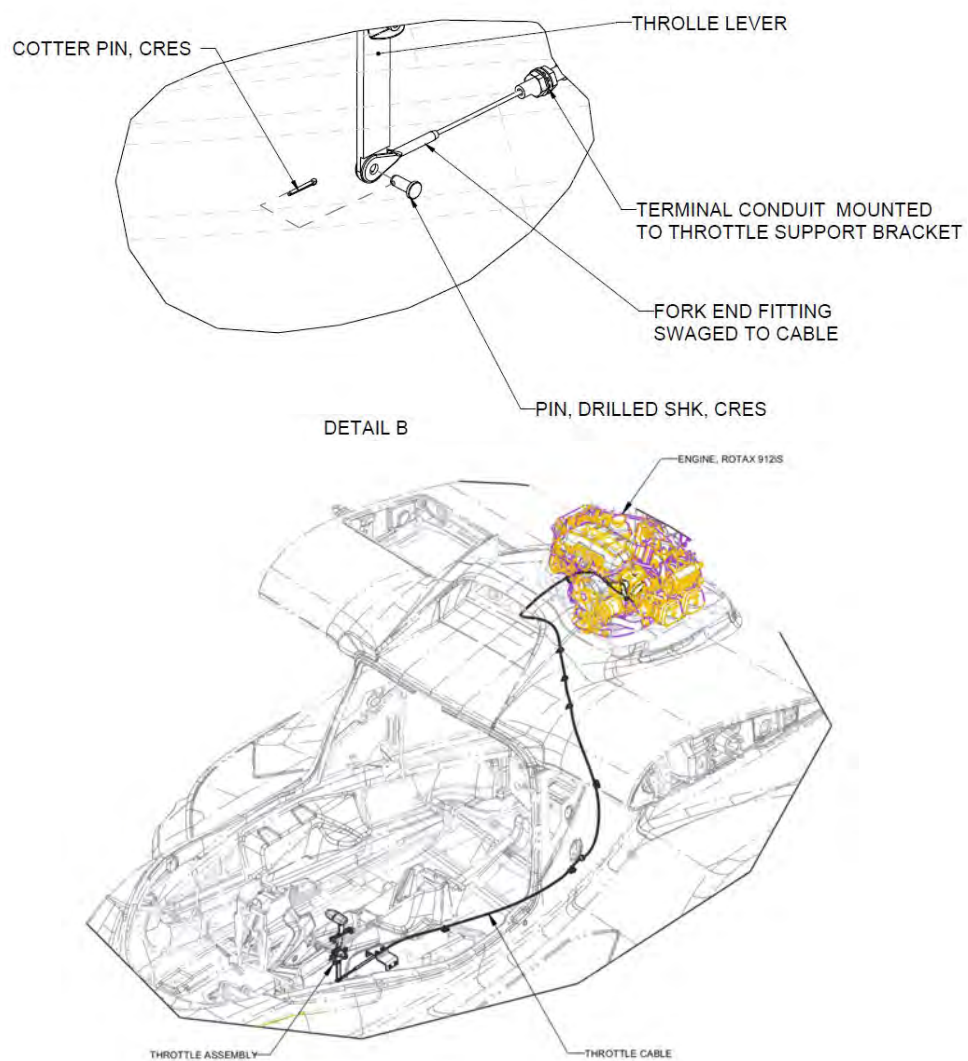

FIGURE 17-20
1. Remove engine cowling. (See “Remove Engine Cowlings” on page 17-14.) It is necessary to access the engine throttle lever inside the cockpit and the cable lever on the engine. (See Figure 17-20.)